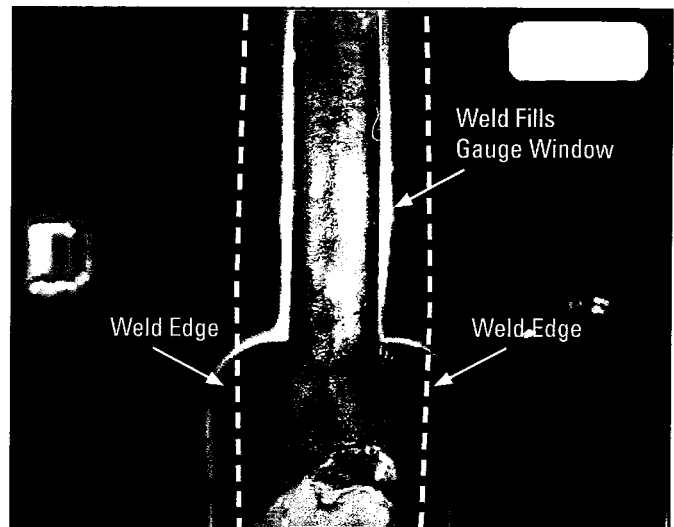

Figure 4
2. Visually inspect the position of the weld bead in reference to the small gauge window (3/16" width). The full circumference of weld seam must be inspected in the gauge window. **Figure 4**
- 2a. **Part Passes** if the weld bead completely fills the narrow gauge window **Figure 4**. Mark the parts that pass inspection with yellow or white paint mark adjacent to the part number stamp. **Figure 1**